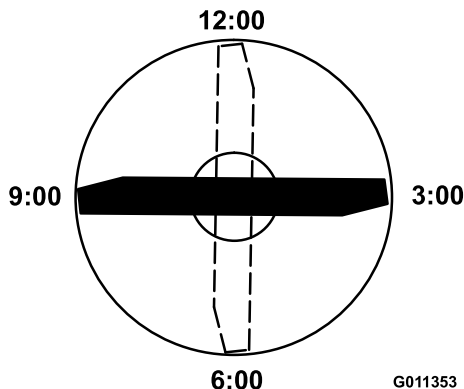

Figure 95
4. Position the cutting edge of the marked end of the blade at 12 o'clock (straight ahead in the direction of mowing) (Figure 95) and measure height from table to cutting edge of blade.
5. Rotate the marked end of the blade to the 3 and 9 o'clock positions (Figure 95) and measure the heights.